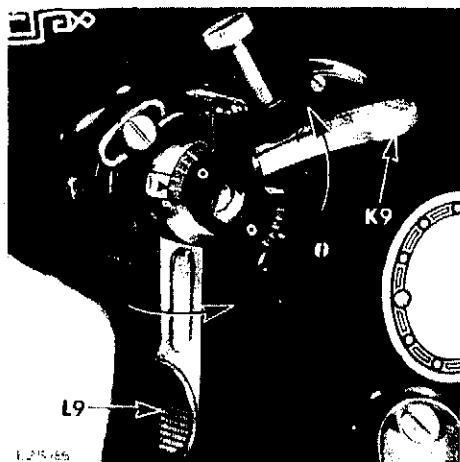

Fig. 208
**SETTINGS:** Bight control lever **K9** at **highest** point and position lever **L9** at **lowest** point, as shown in **Fig. 208**.